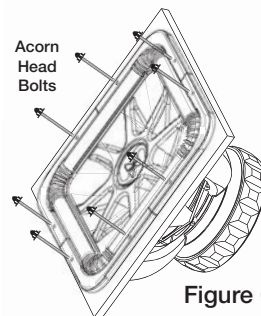

Figure 6
Then remove the eight (8) Acorn Head Bolts securing the SPAIR (Simple Pull Apart Insertable Replacement cone assembly) to the BAM (Basket And Motor assembly) and to the wood "template". Place the SPAIR in a safe and clean location. See Figure 6.